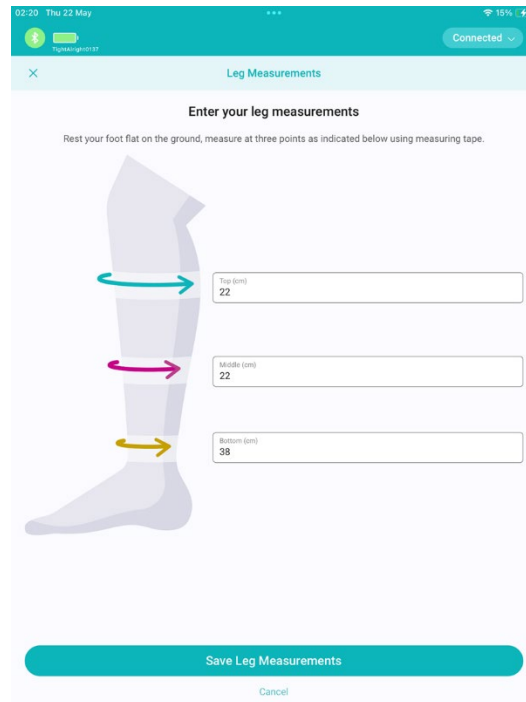

Figure 10. Inputting leg measurements into the Tight Alright Mobile App and saving values.
- As you take the patient’s leg measurements, enter them in the appropriate fields on the **Take Leg Measurements** screen, in centimetres, corresponding to the circumference of the patient’s leg at the three sensor positions, and press **Save Leg Measurements** (Figure 10).